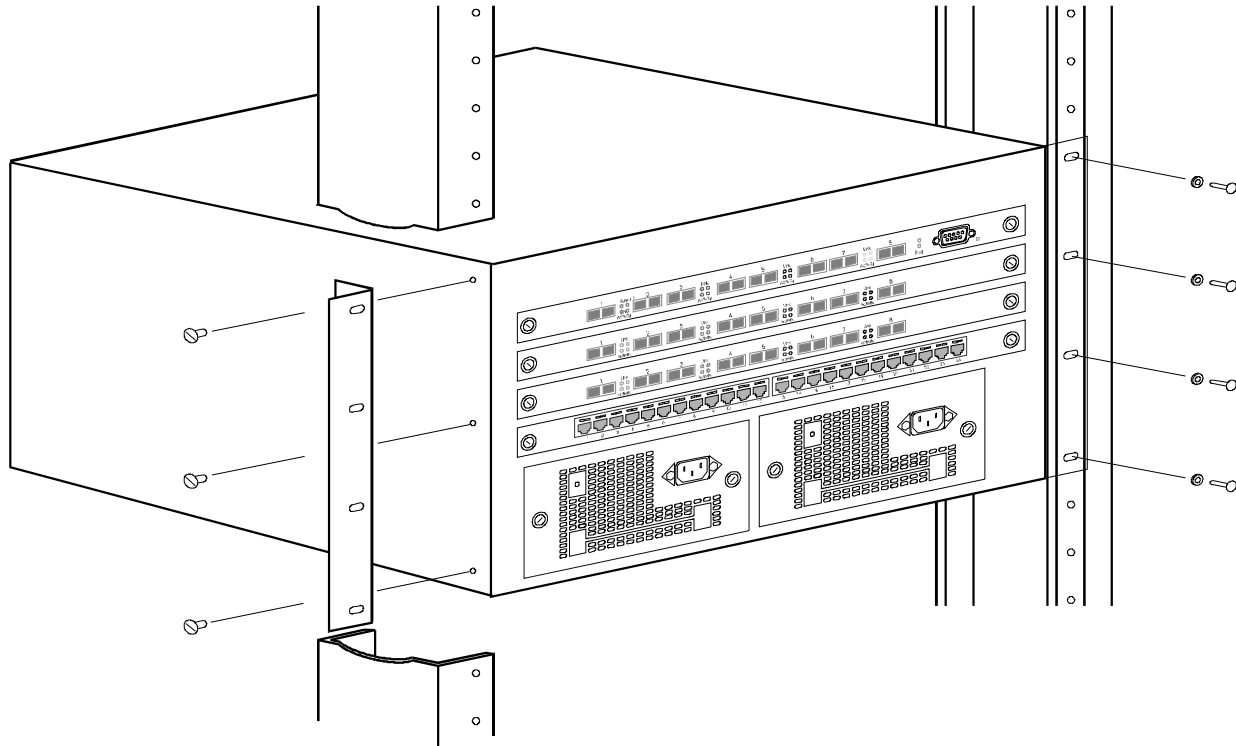

Figure 2.7 Installing an HP 9304M routing switch in a rack mount
2. Attach the mounting brackets to the sides of the routing switch as illustrated in Figure 2.7.
3. Attach the system in the rack as illustrated in Figure 2.7.